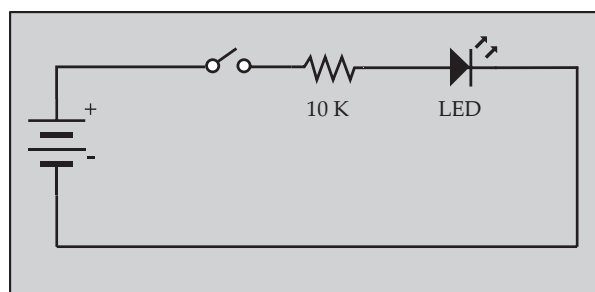

Figure 3
2. Examine the schematic diagram in Figure 3 carefully before working with the breadboard.